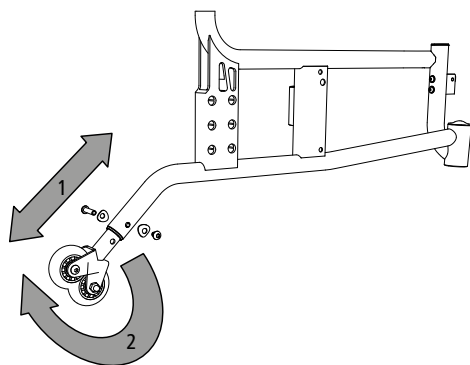

Fig. 47
1. Loosen the screw and extend the anti-tip wheels to the lowest possible distance from the ground. Then tighten the screws again (1, Fig. 47).
2. If the distance between the anti-tip wheels and the ground is too low, you can also turn the anti-tip wheels 180° so that they face upwards (2, Fig. 47).